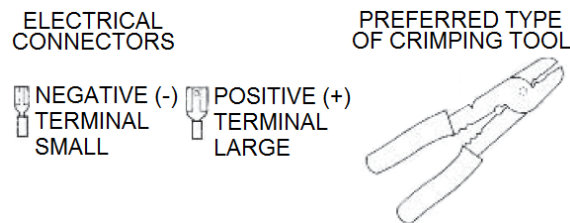

Figure 6
2. **CRIMP ON NEW TERMINALS** - Some pumps will require cutting the wires near the existing connector or terminals and stripping $\frac{1}{4}$ " of insulation from the wires. Then, crimp on new terminals using the recommended tool shown in Fig. 6. If there is a protective rubber boot over the terminals, it can be removed and discarded.
in Fig. 6, crimp the butt splices to the bracket wires and to the new wiring assembly, making sure proper polarity is maintained. Snap the electrical connector into the pump.
1. Some pumps will require the removal of a protective rubber boot over the terminals, cutting the wires near the existing connector or terminals, and stripping $\frac{1}{4}$ " of insulation from the wires. Using the recommended tool shown in Fig. 6, crimp the butt splices to the bracket wires and to the new wiring assembly, making sure proper polarity is maintained. Snap the electrical connector into the pump.